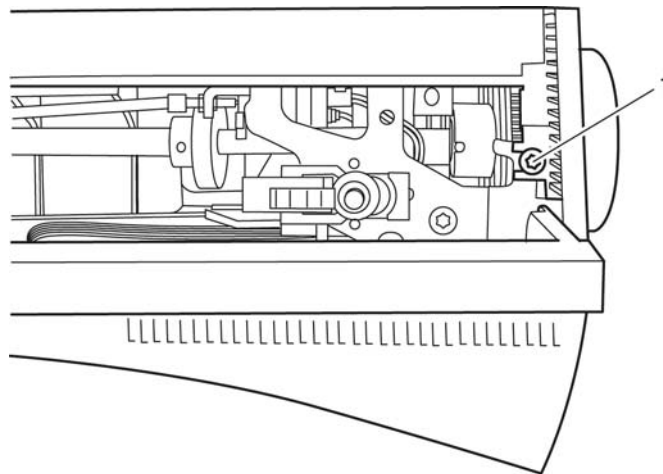

Fig. 48a
- Fit the stand cover and secure with screw 1 (Fig. 48a).